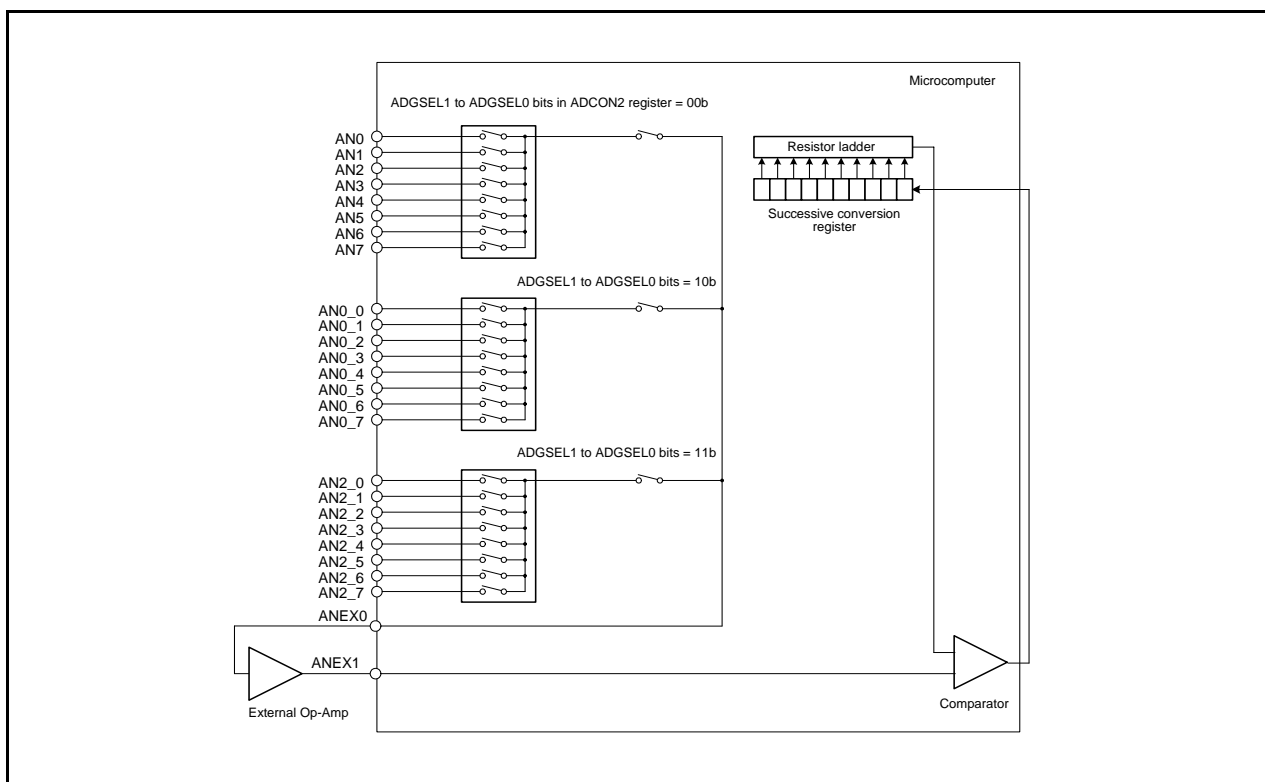

Figure 18.10 External Op-Amp Connection
Multiple analog inputs can be amplified using a single external op-amp via the ANEX0 and ANEX1 pins. Set the OPA1 to OPA0 bits in the ADCON1 register to “11b” (external op-amp connection mode). The inputs from AN_i (i = 0 to 7) (1) are output from the ANEX0 pin. Amplify this output with an external op-amp before sending it back to the ANEX1 pin. The A/D conversion result is stored in the corresponding AD_i register. The A/D conversion speed depends on the response characteristics of the external op-amp. Figure 18.10 shows an example of How to Connect the Pins in External Op-Amp.